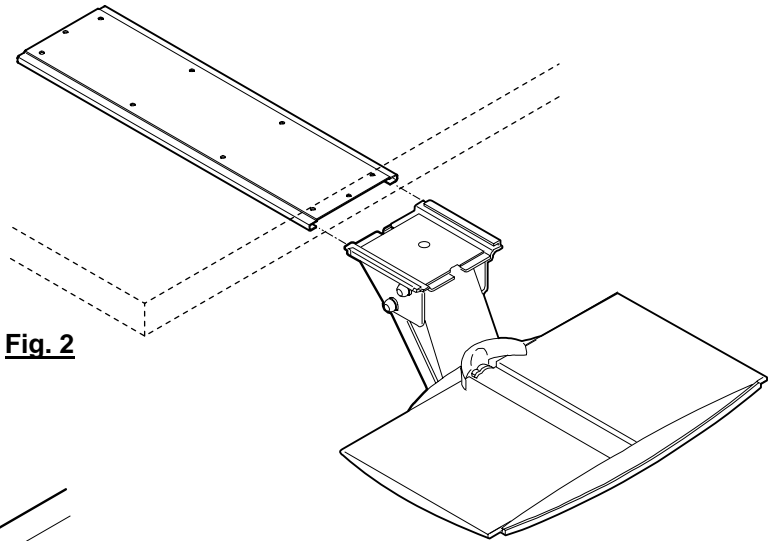

Fig. 2
2. Slide arm/tray assembly into track groove (**Fig. 2**).